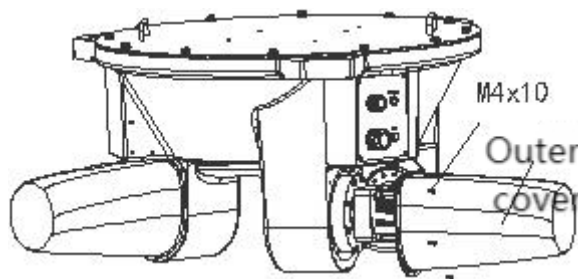

Figure 3-15 Remove the cover
Step 1 Remove 5 hexagonal flat head screws M4x10, remove the outer cover, as shown in Figure 3-15.